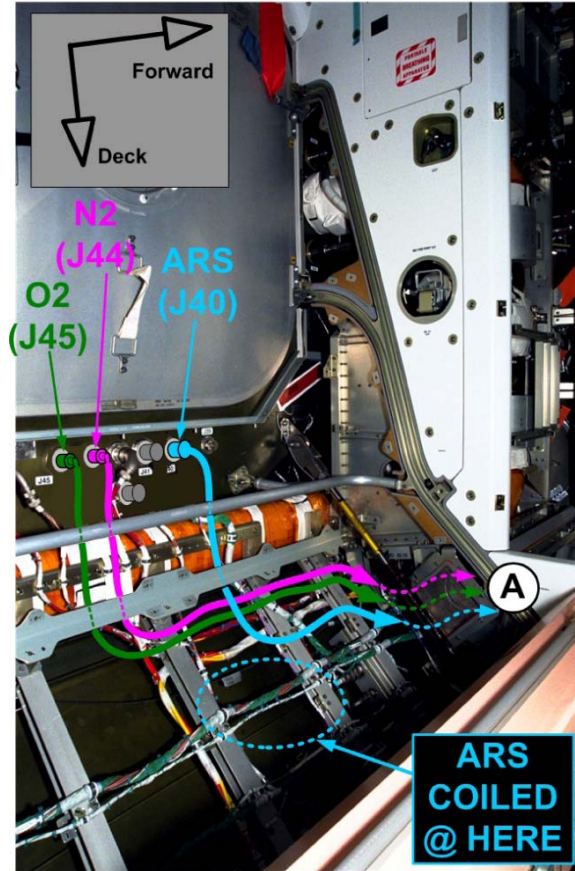

Figure 8.- ARS and O2/N2 Hose Routing in Port Deck Radial Area.
- 6.1.1 Uncoil pre-positioned NOD1 Air Sample Hose (ARS) and route free end toward Deck Alcove area. Route hose just under the square-shaped diffuser bracket and into area between Port and Deck Alcoves. Refer to Figure 8.
Refer to Figure 8.
Refer to Figure 8 and Table 2.